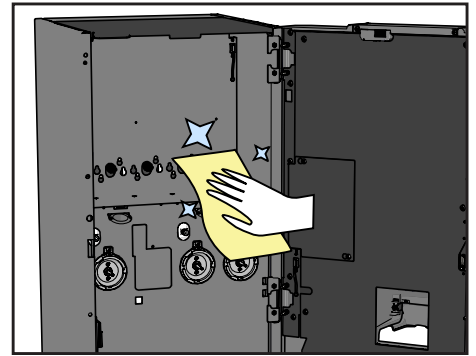

Figure 50.
16. Clean the inside of the machine with a slightly damp cloth (see Figure 50).